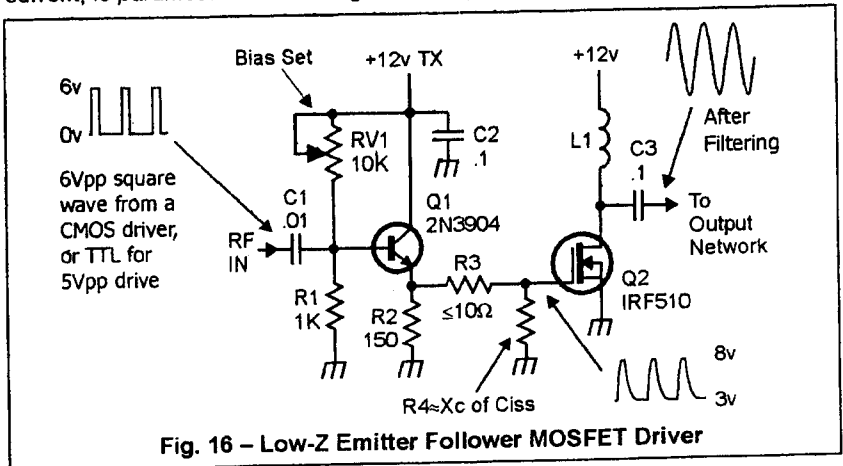
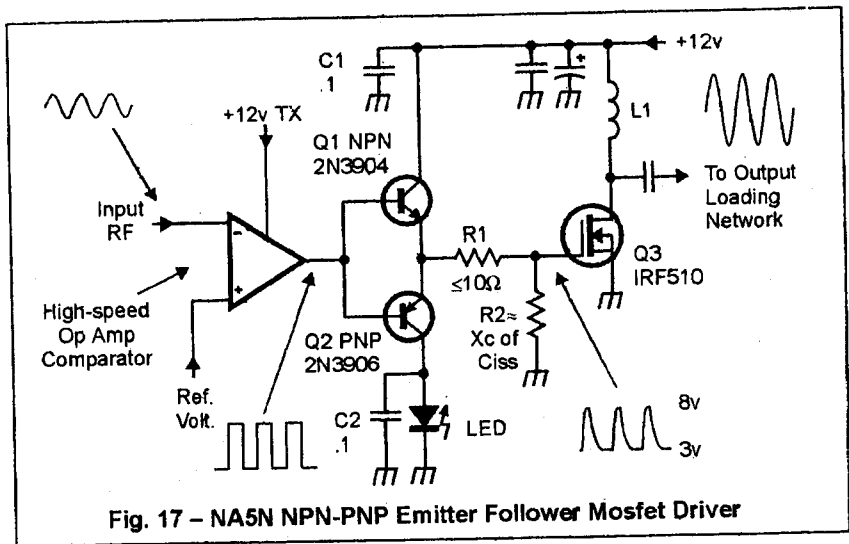
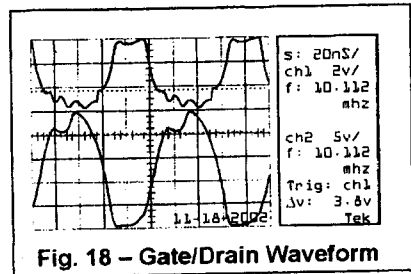

Fig. 16 – Low-Z Emitter Follower MOSFET Driver
Fig. 17 - NA5N NPN-PNP Emitter Follower Mosfet Driver
Fig. 18 - Gate/Drain Waveform
The square wave drive can be developed by some type of CMOS or TTL gate. These alone do not have the current sinking capabilities needed to properly drive the IRF510. Some type of current booster, plus the ability to shift the dc level of the input square wave is required. The emitter follower circuit in **Figure 16** is one approach. This works best if you provide a 6V square wave to Q1, such as from a 6-8v CMOS gate, rather than 5V TTL. This is due to the 0.7v drop in the emitter follower, leaving only about 4V from a TTL drive. This may not drive the IRF510 into saturation.
In the technical literature, the following equation is used to calculate the driver resistance, Rd, needed (R2 in **Fig. 16**):
Where, t is the desired rise time of the gate signal (usually 15-20nS), V1 is Vg at saturation, V2 is the peak-to-peak gate voltage, or V1 minus Vgs(on), and Ln is the natural logarithm. For the driver in **Fig. 16**:
Another driver scheme developed for my class D/E transmitters is shown in **Figure 17**. It is similar in some regards to the emitter follower driver in **Fig. 16**.
**Figure 18** is an oscilloscope display of this circuit driving a class E transmitter. The top trace is the **gate voltage** at 2v/div.  $V_{gs(th)}$  of this particular device is 3.8v, shown by the dotted line marker on the oscilloscope. Gate voltage rises fairly quickly to saturate at 8v. When the drive signal switches from HI to LO, the action of Q2 discharges  $C_{iss}$  and drops the gate voltage below  $V_{gs(th)}$  faster than the emitter follower version in **Fig. 16**. In this case,  $R1=3.9\Omega$  and  $R2=220\Omega$ .
PA efficiency of class D/E/F can be easily measured on an oscilloscope by measuring the LO to HI gate drive transition to the point the drain current first saturates (when drain voltage hits the lowest value). This accepted method is basically a measure of how long you spend in the linear region. The time to reach saturation is compared to the time of the RF cycle to determine the phase delay, in degrees. The steps to calculate PA efficiency, based on the NA5N driver and PA waveform in **Fig. 18**, are shown below. Calculating efficiency based on measuring PA currents (input vs. output power) yielded 91%.
drain voltage begins to rise, indicating drain current is turning off as desired. Gate voltage drops from +8v to +3.8v  $V_{gs(th)}$  faster than the single emitter follower waveform in Fig. 16, due to the loading effect of Q2. Drain voltage rises above 12v  $V_{DD}$  as the current stored in L1 now dumps into the output network when drain current stops.
In class E, L1 is also part of the output tuned circuit, resonant at the transmit frequency by the shunt capacitor in conjunction with the internal  $C_{oss}$ . See "Cv" in Fig. 6, Part 1. When the current stored in L1 is depleted, drain voltage will begin to decrease. However, in class E, the energy stored in the capacitor parallel to L1 will provide voltage when the current in L1 is depleted, causing the familiar "fly-wheel" effect of the resonant circuit. In Fig. 18, the hesitation in drain voltage at 20v is when L1 runs out of current, and the voltage peak to 25v is the voltage being supplied by the shunt capacitor, which has been charged to 2VDD. Two or three peaks may be seen at the 25v level, depending upon the harmonic power present. With this waveform, the transmitter had a power range of 1W to 9W (by varying the duty cycle from 15% to 45%) with an overall efficiency of 85% and a PA efficiency of 92%.